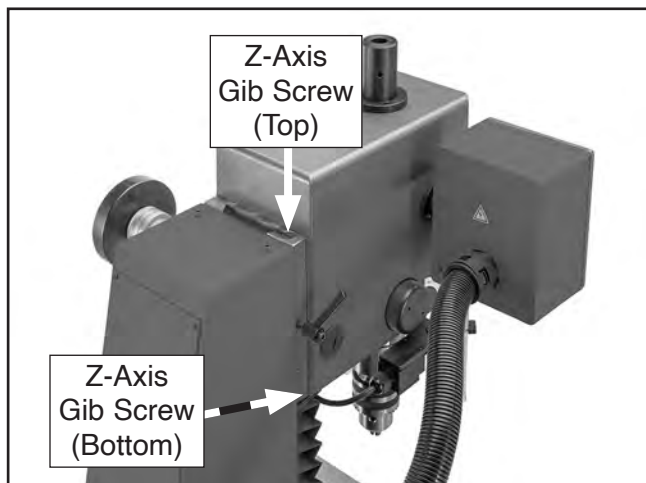

Figure 66. Location of Z-axis gib screws (G0982 shown).
3. Loosen one Z-axis gib adjustment screw and tighten opposing screw the same amount to move gib (see **Figure 66**).
Note: Bottom Z-axis gib screw is behind way cover in **Figure 66**.